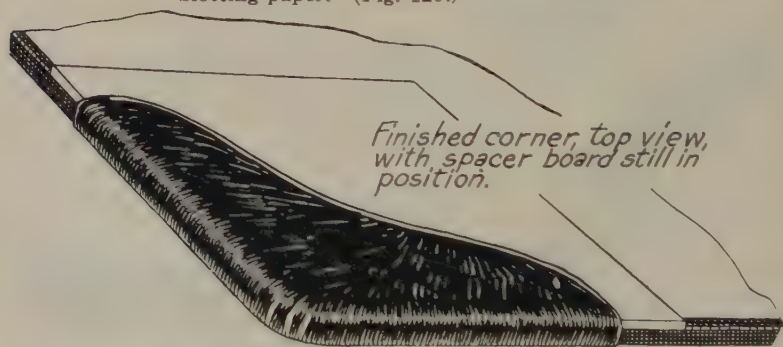

FIG. 129—FACE SIDE OF BLOTTER BASEBOARD WITH CORNER AFFIXED
7. Carefully remove the 4 pieces of board 6" x 6" from under the corners and you are ready to insert the sheets of blotting paper. (Fig. 129.)